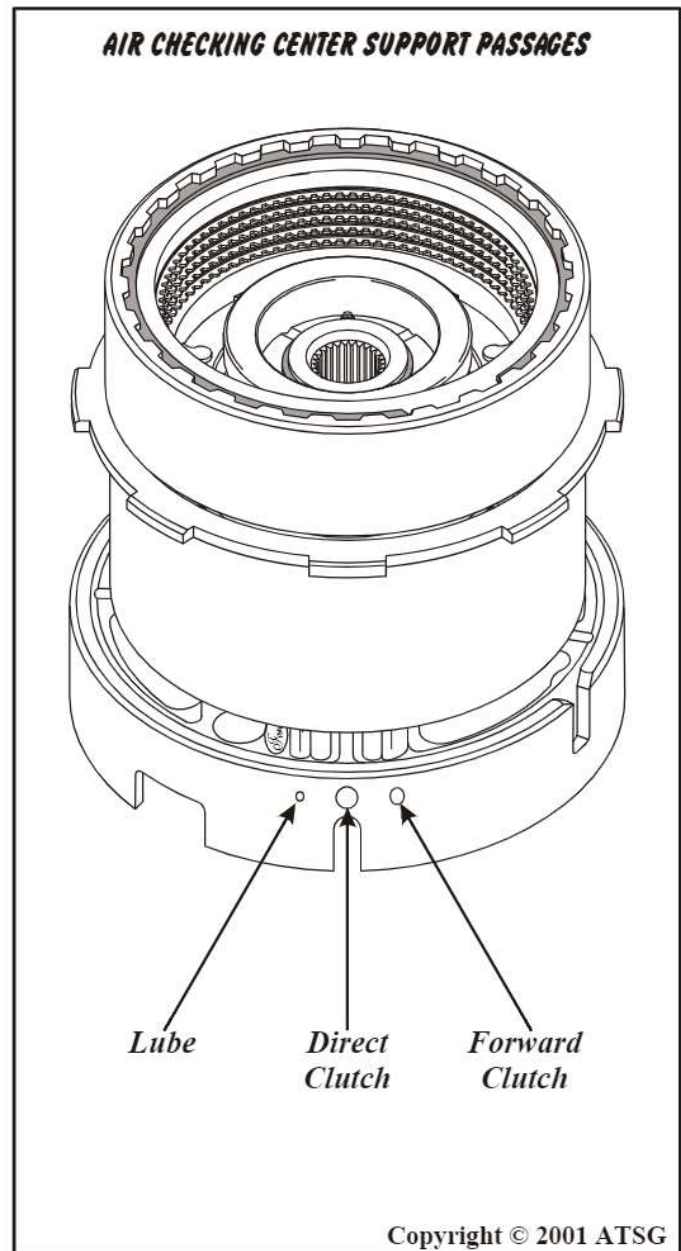

Figure 94
6. The *only positive way* to verify the integrity of the center support, is to assemble the forward and direct clutch housings, with the appropriate thrust bearings, onto the support, as shown in Figure 94.